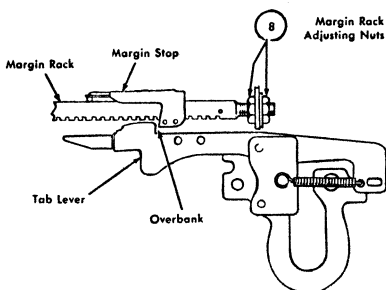

Figure 20. Overbank Adjustment
8. OVERBANK. This term is applied to the amount of play between the left-hand margin stop and the head of the tab lever when the carriage is resting at the left-hand margin. Overbank is adjusted by moving the margin rack to the left or right. Position the margin rack so that, at the instant the left-hand margin stop contacts the head of the tab lever, an escapement pawl will click into the tooth of the escapement rack. Observe this adjustment by slowly moving the carriage to the left-hand margin from a position of one or more spaces from the left margin (Figure 20).